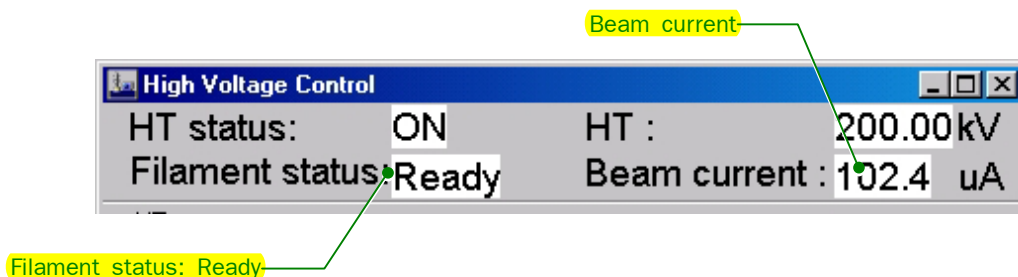
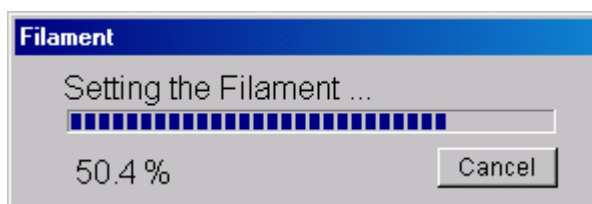
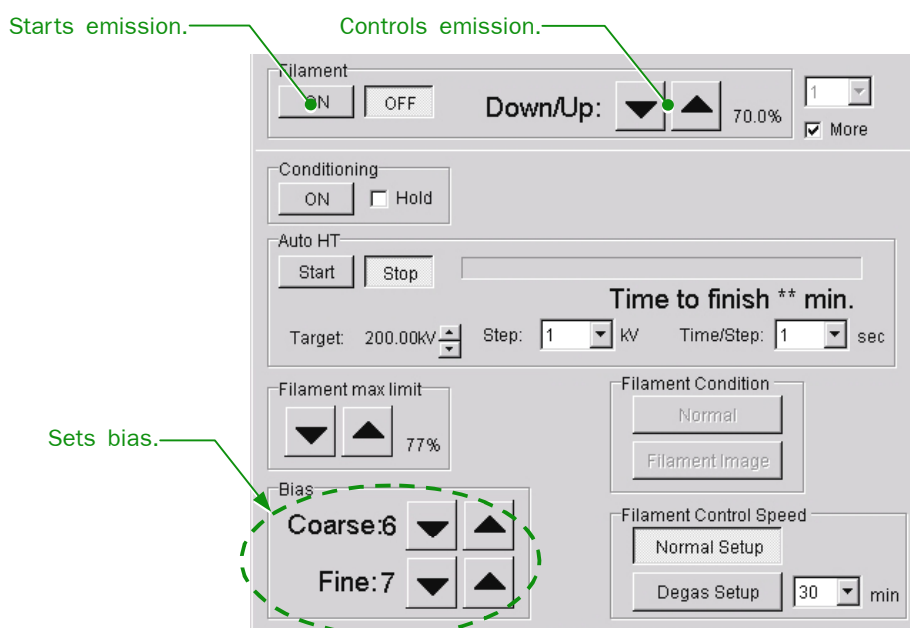

Fig. 5.12 High Voltage Control window
Fig. 5.14 Filament window
Fig. 5.15 Generating high voltage
7. Wait until the Beam Current (detection current) in the **High Voltage Control** window (see Fig. 5.12) becomes stable within the range shown on the table below. If it does not, carry out Steps a to e below.
- a. Minimize the accelerating voltage and make sure that Filament Status in the **High Voltage Control** window is Ready (☞ Fig. 5.12).
- b. Click on Filament **ON** in the **High Voltage Control** window or press the Beam button (L1-①) on the control panel to generate the electron beam.
- ✍ While the electron beam is being generated, the **Filament** window opens. While the **Filament** window is open, you cannot access any other windows (☞ Fig. 5.14).
- a. Set the desired percentage to the set maximum beam emission using the Filament **Down/Up** buttons in the **High Voltage Control** window (☞ Fig. 5.15).
- ✎ The percentage to be selected cannot exceed the value that is preset in Filament max limit in the **High Voltage Control** window (☞ Fig. 5.15) at the time of shipment from the factory. Do not modify the value.
- ✎ While the electron beam is being generated, the **Filament** window opens. While the **Filament** window is open, you cannot access any other windows (☞ Fig. 5.14).
- ✎ The detection current added to the beam current is displayed as Beam Current in the **High Voltage Control** window (☞ Fig. 5.12).
- c. Set Beam Current in the **High Voltage Control** window to 10 μA using the Filament up and down triangle buttons and the Bias Coarse and Fine triangle buttons (☞ Fig. 5.15).
- a. Turn on TEM (L1-③).
- b. Set SPOT SIZE in the TEM Controller main window to SPOT 2 using the SPOT SIZE (L1-③) and α 3 using the α SELECTOR (L1-③).
6. Make sure that all the lens switches (L3-⑧) are on; then press MAG2 (r1-②). A specified magnification of 5000 \times is obtained. If it is not, correct it by referring to Section 5.15.4.
7. Turn the BRIGHTNESS knob (L1-⑥) to see if the electron beam appears on the fluorescent screen. If you find the screen partly illuminated, proceed to the next step. If you don't, proceed to Step 10 below.
8. Adjust the SHIFT X and Y knobs (L1-⑧ and R1-③) and the BRIGHTNESS knob (L1-⑥) to the brightest beam spot condition.
9. When screen brightness increases and starts to get too bright, turn on PLA (R2-⑤) or click on DEF Select **PL** in the **Alignment Panel for Maintenance** window; adjust the SHIFT X and Y knobs (L1-⑧ and R1-③) and the BRIGHTNESS knob (L1-⑥) to the brightest beam spot condition again; then align the condenser lens optical axis, referring to Section 5.5.3.